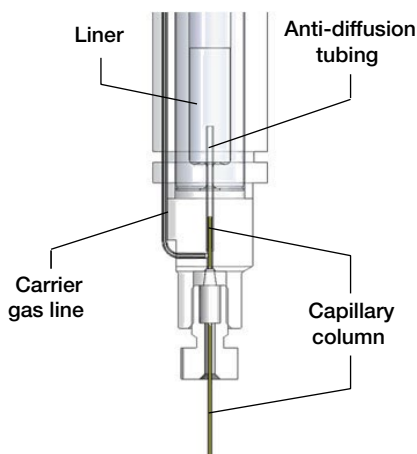

Figure 2. HeSaver-H₂Safer bottom view of the body
- The **carrier gas line** at the base of the injector body delivers the carrier gas to the column— **helium** or **hydrogen**, depending on the configuration and the gas mode selected. A short segment of tubing acts as a back diffusion barrier preventing the pressurizing gas from entering the column during the chromatographic run (Figure 2).